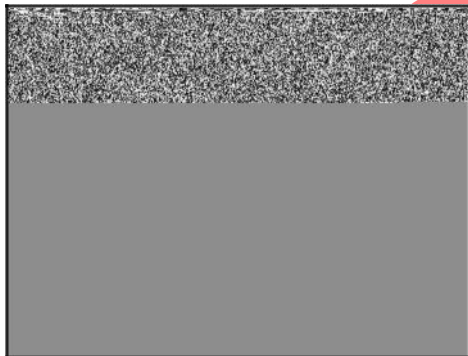

Figure 9
2. 14 Volt AC Only (Figure 9)
- One black lead from stator (A)
- White connector (B) output lead